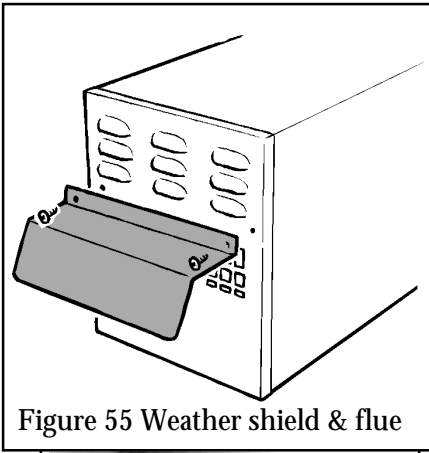

Figure 55 Weather shield & flue
15.12.2 Detach the weather shield and flue box end plate by removing two screws (see figure 55).